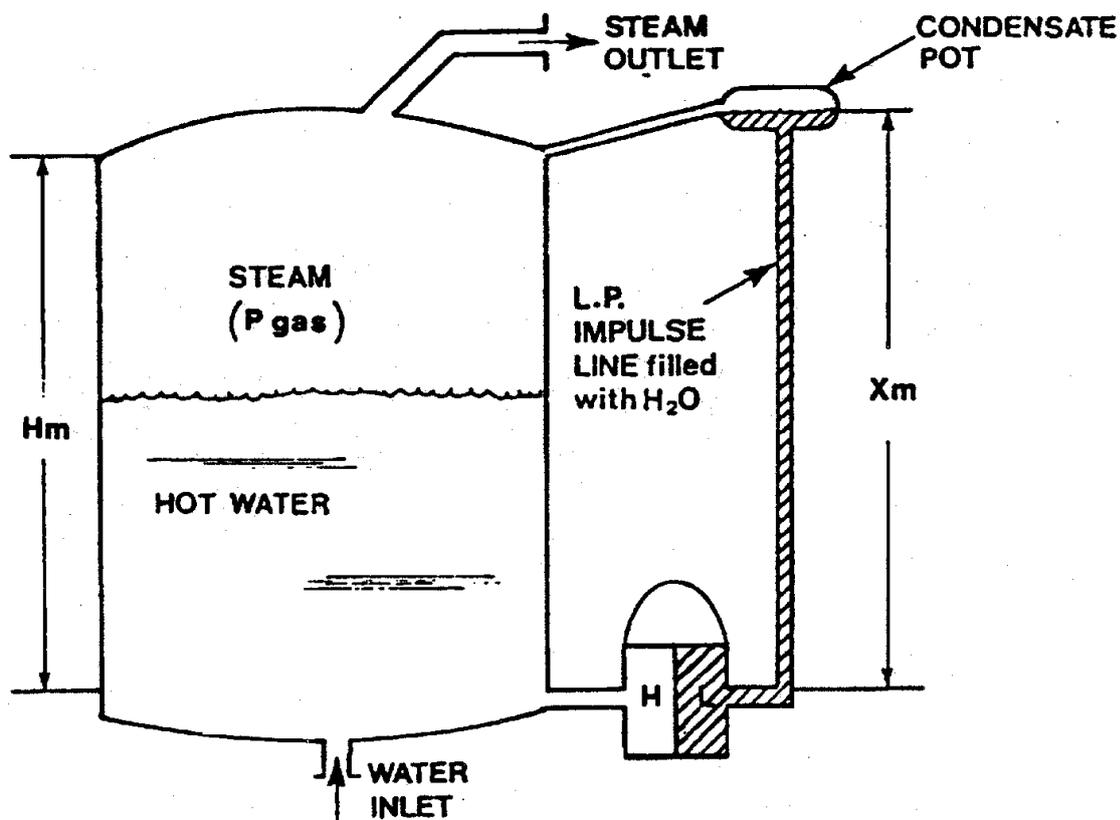

Figure 7: Simplified Wet Leg Installation.
- When a wet leg installation is used (see Figure 7), the low pressure side of the level transmitter will always experience a **higher hydrostatic pressure** than the high pressure side.
- This is due to the fact that the height of the wet leg (X) is always just greater than the maximum height of the liquid column (H) inside the tank.
- The differential pressure DP sensed by the transmitter shown in Figure 7. is always a **negative value** (i.e. the low pressure side has a higher pressure than high pressure side).